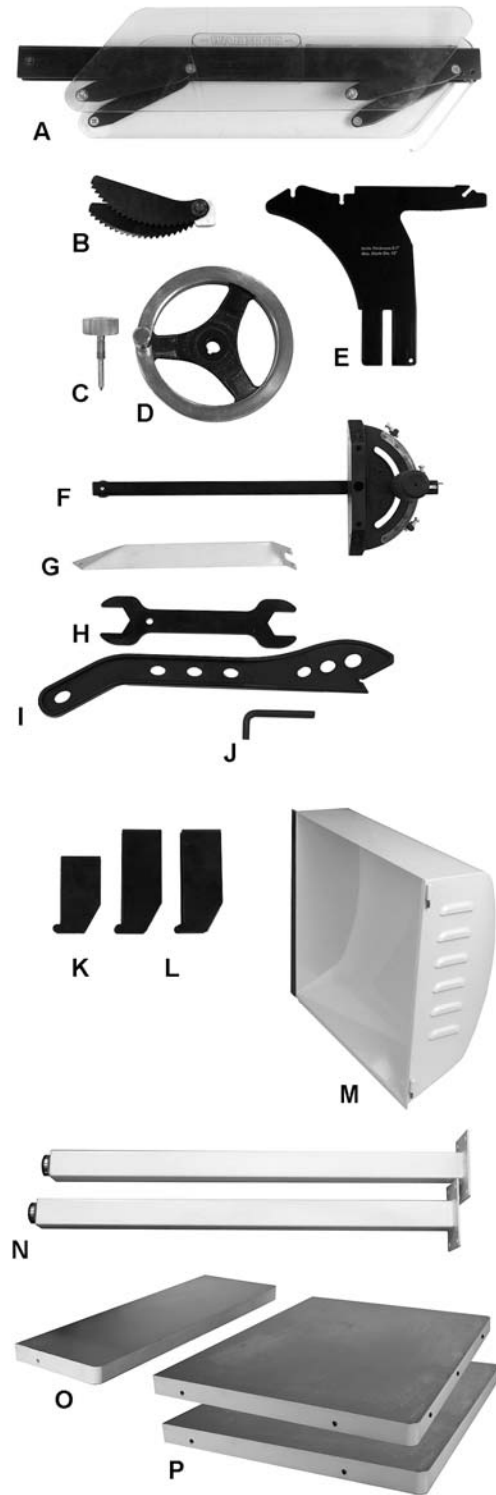

Figure 1
**Carton contents** (see Figure 1)